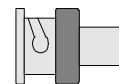

Fig.2
- a short-circuit plug (Fig. 2)- only as *iks aquastar midi redox*